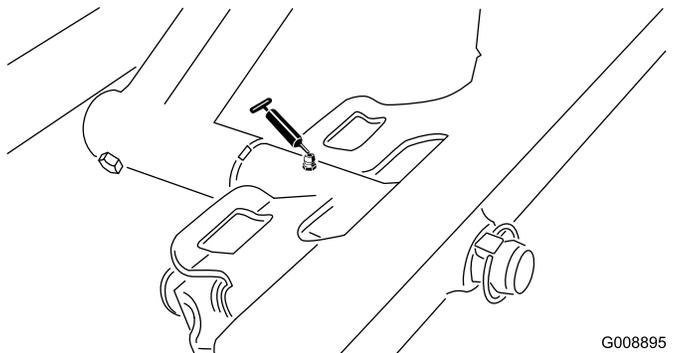

Figure 32
- Front cutting-unit pivot (Figure 32)